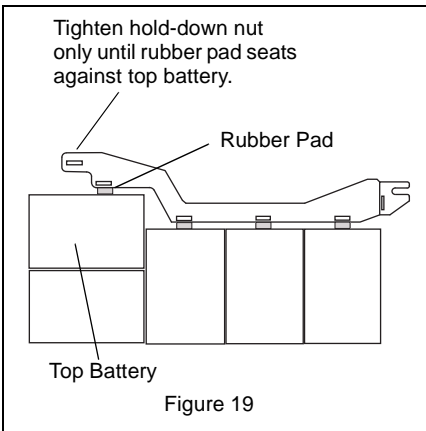

Figure 19
3. Install battery hold down bracket and nut. Do not fully tighten. Tighten nut only as required to seat rubber pad against top of battery closest to hold-down nut (see figures 19 and 20).